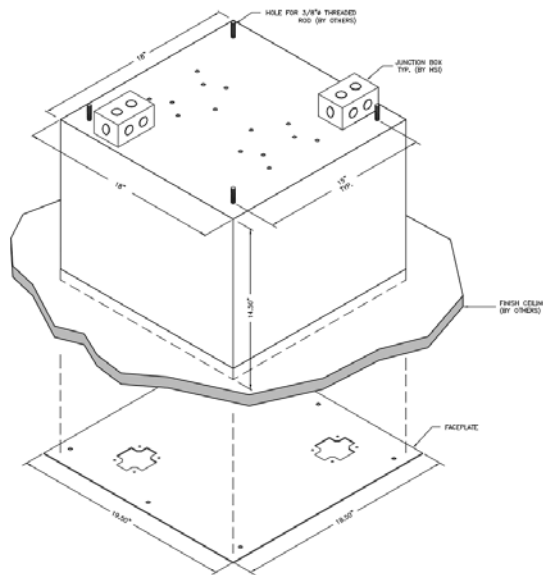

Figure 2
- a. Use (minimum) $\frac{3}{8}$ " threaded rods (not included) to structurally anchor the rough-in box. Anti-sway bracing is also required. See Figure 2.